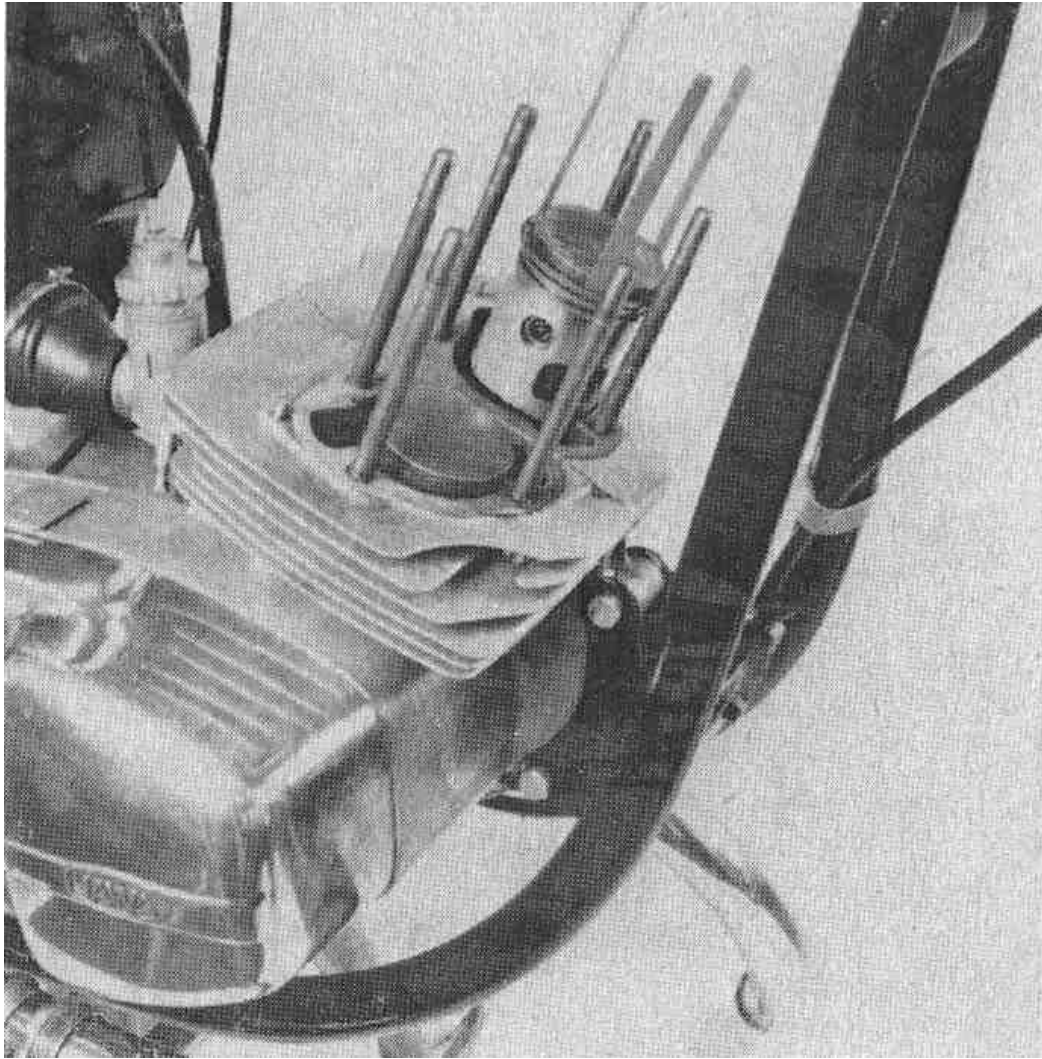

Fig. 38 – Replacement of piston rings
8. REPLACEMENT OF PISTON RINGS (Fig. 38)